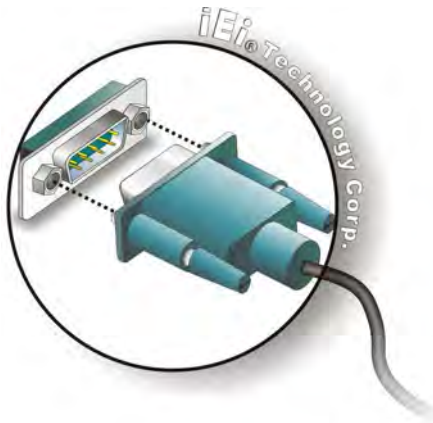

Figure 3-5: Serial Device Connector
- Step 1: Insert the serial connector.** Insert the DB-9 connector of a serial device into the DB-9 connector on the external peripheral interface. See **Figure 3-5**.